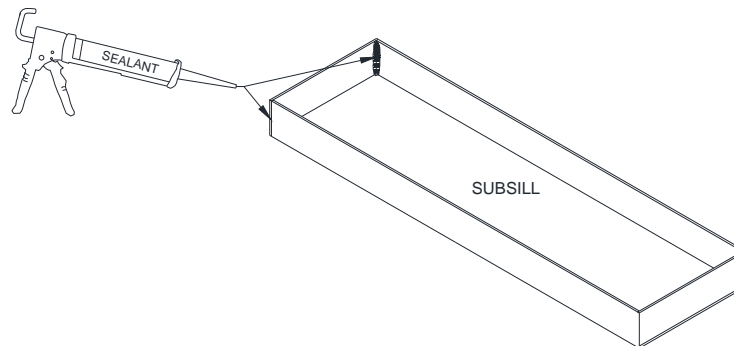

Figure 2:
- Apply sealant in all corners and seams of the pan (Figure 2).